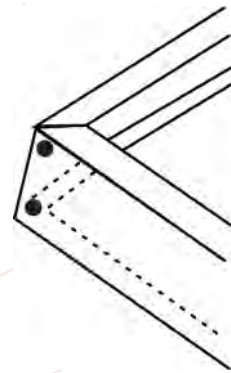

Figure 10: Holes in end-plate
- Alternatively, holes at least 1/2-inch (13 mm) in diameter can be placed in the web within 1/4-inch (6 mm) of the end-plate. To facilitate drainage, end-plates should have holes placed as close to interior corners as possible (*Figure 10*).